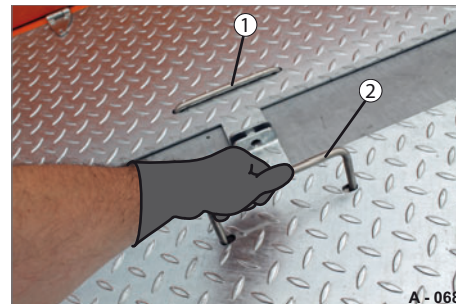

Fig. 67 Open the stowage box
- Remove the countersunk handle (Fig. 67/2).